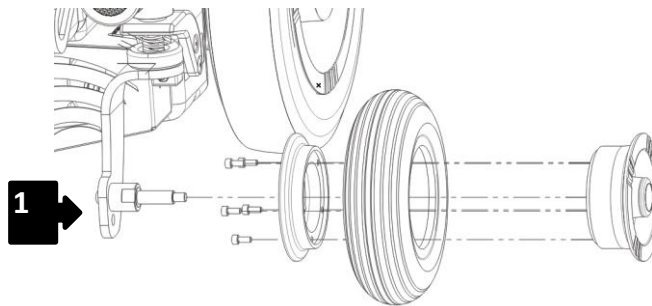

Figure 45
Remove the screws (1) shown in Figure 45 and take away the rim; after that it is possible to remove the tire with its tube.